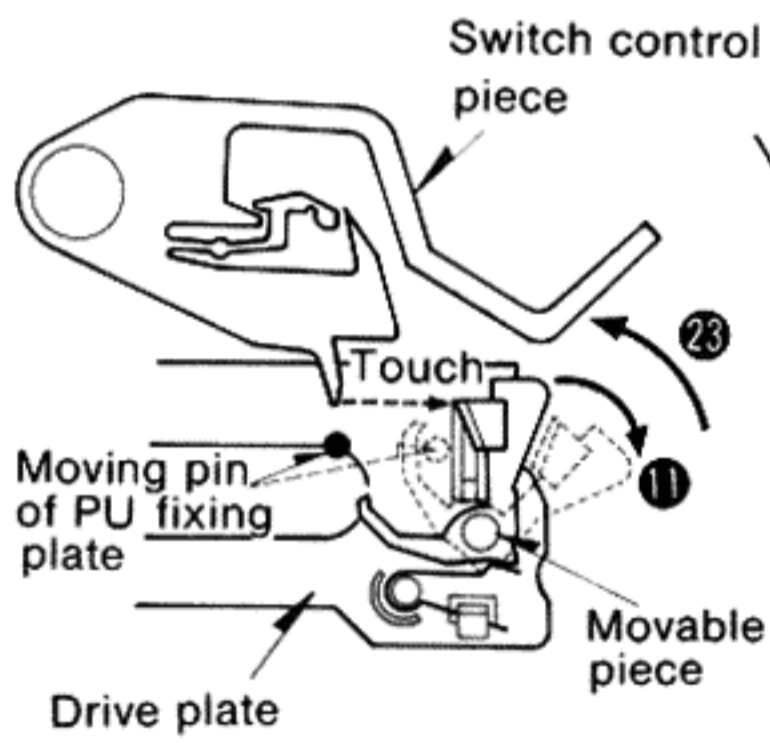

Fig. 3
| 3. | Movable piece setting | • Movable piece touches the switch control piece. • Movable piece is turned to hold the PU fixing plate moving pin. | 152° | Fig. 3 ⑪ |
| 10. | Moving piece reversal | <ul style="list-style-type: none"> ●Actuating piece attached to the drive plate touches the mechanism board and is reversed, making the PU fixing plate moving pin free. | 310° ~ 326° | Fig. 3 ●23 |